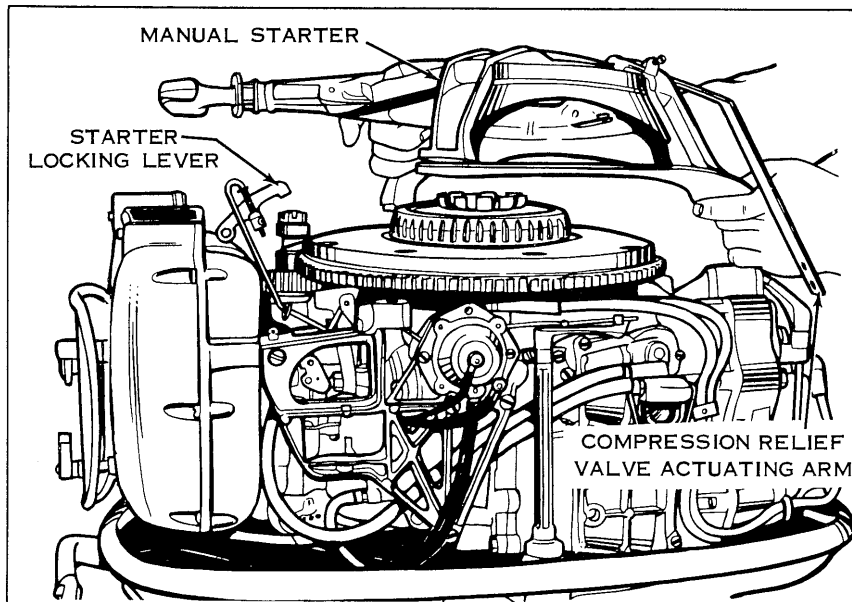

FIGURE 1
2. Remove manual starter assembly. Remove starter locking lever screw and spring, the two screws attaching compression relief valve actuating arm to compression relief valve actuating lever, and the three screws mounting starter to the powerhead and brackets. The manual starter can then be lifted off powerhead. See Figure 1.